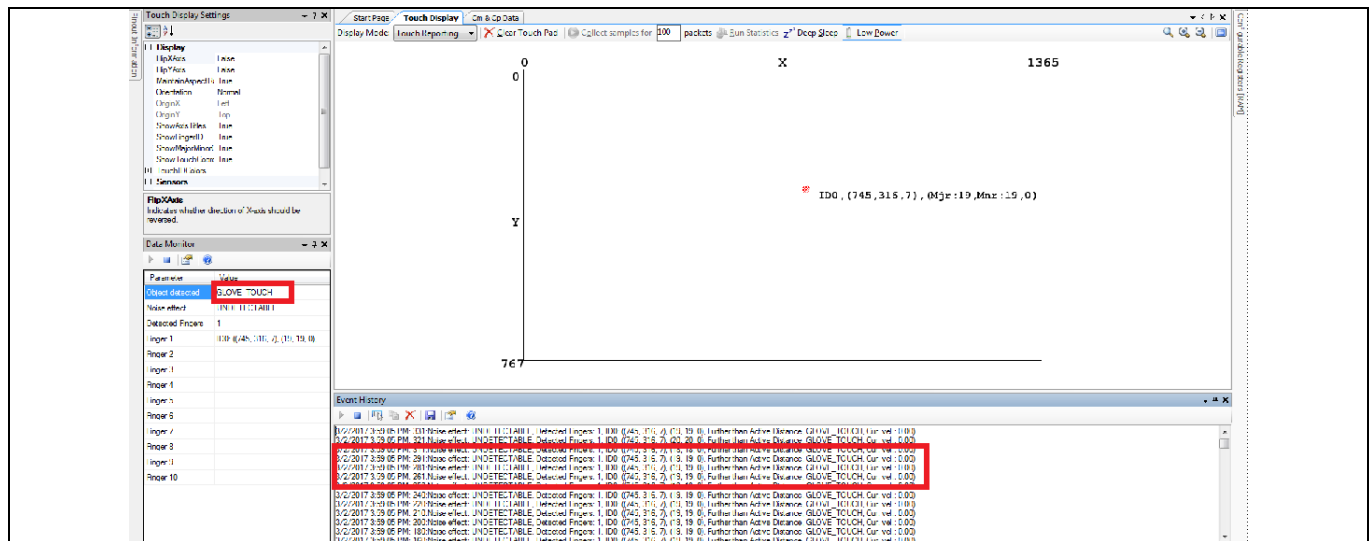

Figure 17 Glove touch report in data monitor and event history panels
17. To view Glove Touch performance, select **View > Tool Windows > Data Monitor**. Position the Data Monitor panel in the left lower panel as shown in **Figure 17**.
19. Select **View > Tool Windows > Event History**. Position the Event History panel at the bottom, as shown in **Figure 17**.